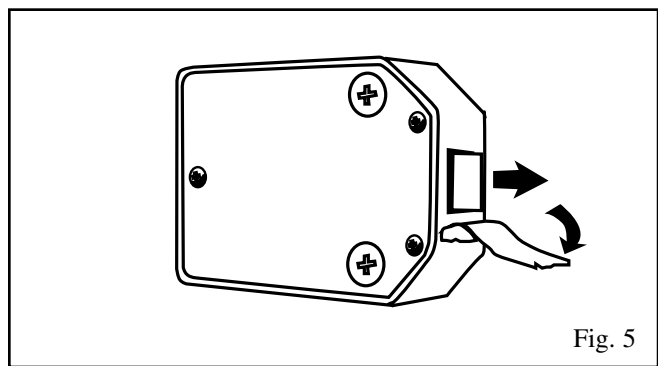

Fig. 5
6. Remove tape from latch. See Fig. 5.